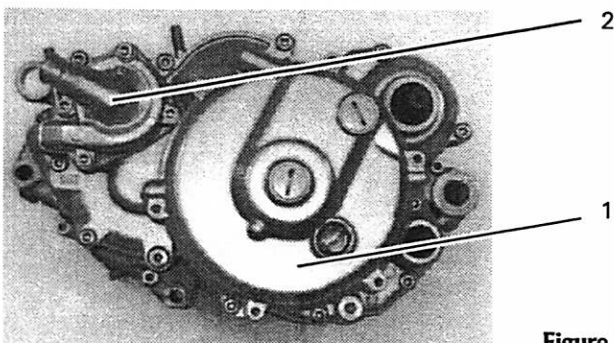

Figure 15
1. Remove the clutch release cover (1, Figure 15) as follows:
2. Remove the water pump housing (2, Figure 15) as follows: